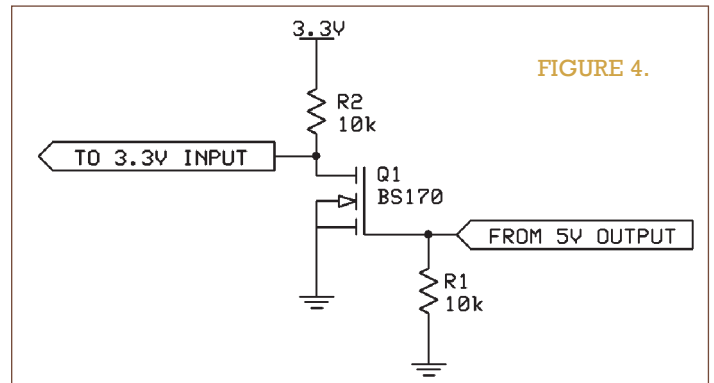

FIGURE 4.
Figure 4 shows the same interface using a BS170 FET instead of a 2N3904 BJT. In this arrangement, R2 is still required to pull up the 3.3V input. However, R1 is now connected to ground to ensure Q1 is off when the 5V output is floating. This can happen on power-up if the pin has not yet been initialized to an output.
■ FIGURE 4. Board pin-outs.